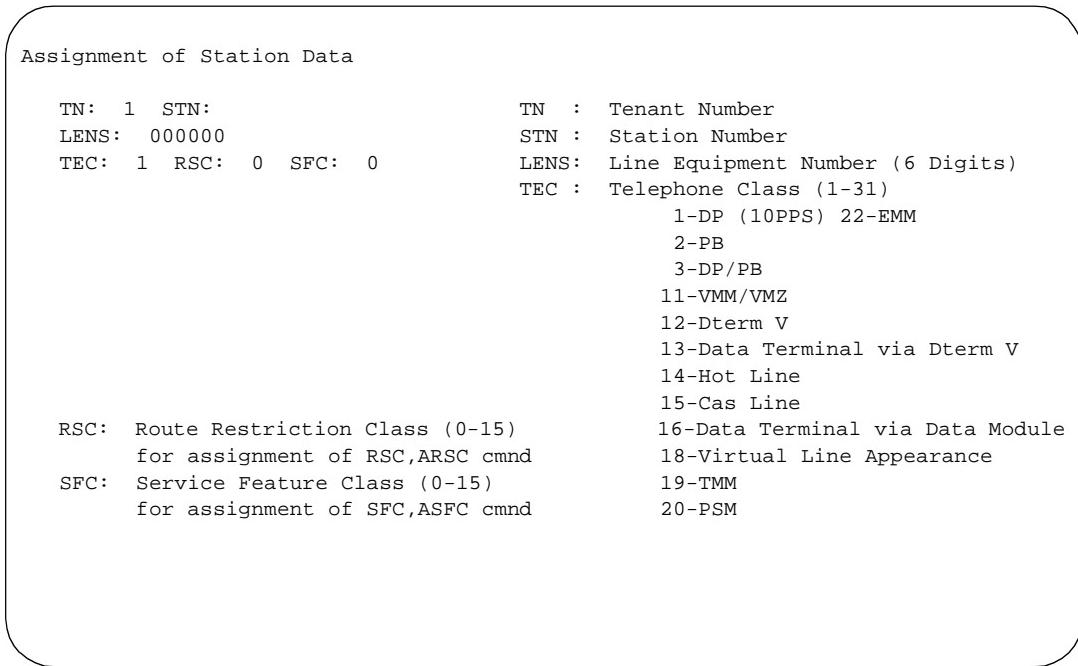

Figure 7-3. Assignment of Station Data Screen
4. Enter **1** to select the Assignment of Station Data option and enter station administration information for each voice mail port. After you select the option, you see the screen as shown in Figure 7-3.